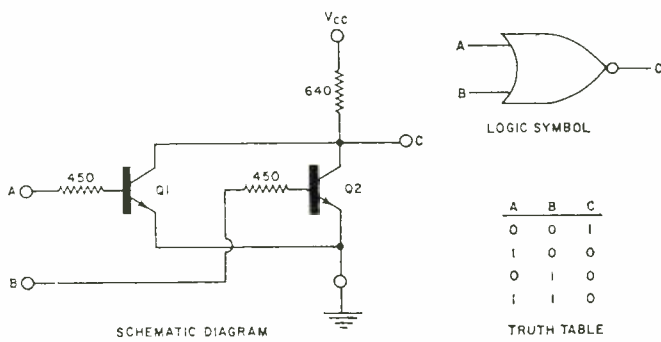

Fig. 1. Here is a typical two-input "nand/nor" logic gate.
A typical gate having two input terminals (A and B) and one output terminal (C) might be described by the truth table shown in Fig. 1.
A typical gate, its logic symbol, and its truth table are shown in Fig. 1. A and B are inputs; C is the output.